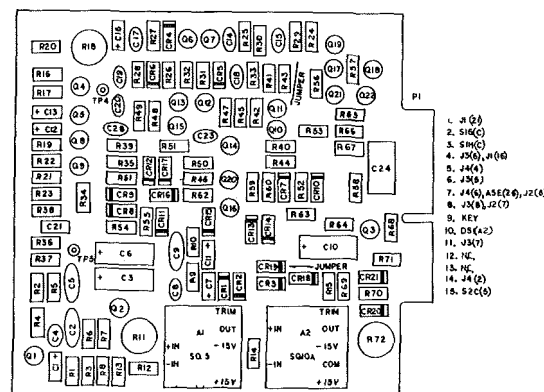

Figure 5-2. Logic Assembly (A2) Adjustments
c. Monitor the square-wave presentation and adjust potentiometer R18 for a 200  $\pm$ 20 millisecond period. See Figure 5-2. for the location of this adjustment.
b. Adjust potentiometer R72 for a voltmeter indication of 0V  $\pm$ 300 $\mu$ V. See Figure 5-2. for the location of this adjustment.
d. Adjust potentiometer R11 until the OSC DET lamp is extinguished. See Figure 5-2. for the location of this adjustment.
22. Fasten the Relay & Amplifier Assembly (A3) into place ensuring that the four (4) retaining screws are tightened securely.